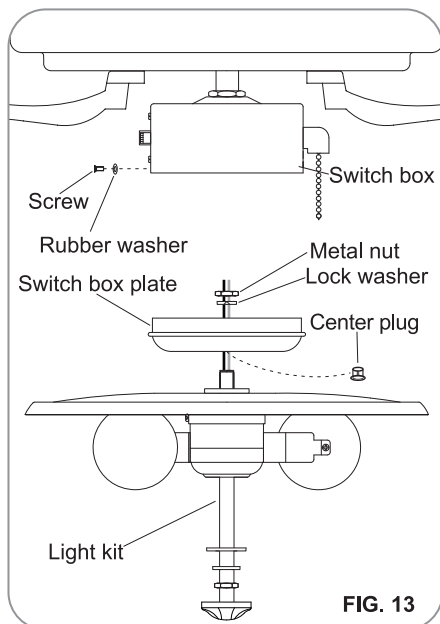

FIG. 13
Step 1: Remove the screws and the rubber washer from the switch box to allow easy wiring.(Fig.13)
Step 2: Remove and discard the center plug from the switch box plate. Attach the light kit to the switch box plate by feeding the wires and threading the light kit through the hole of the switch box plate, secure it to the switch box plate using the nut and lock washer. Be sure it is tight enough to prevent the light kit from vibrating loose. (Fig.13)